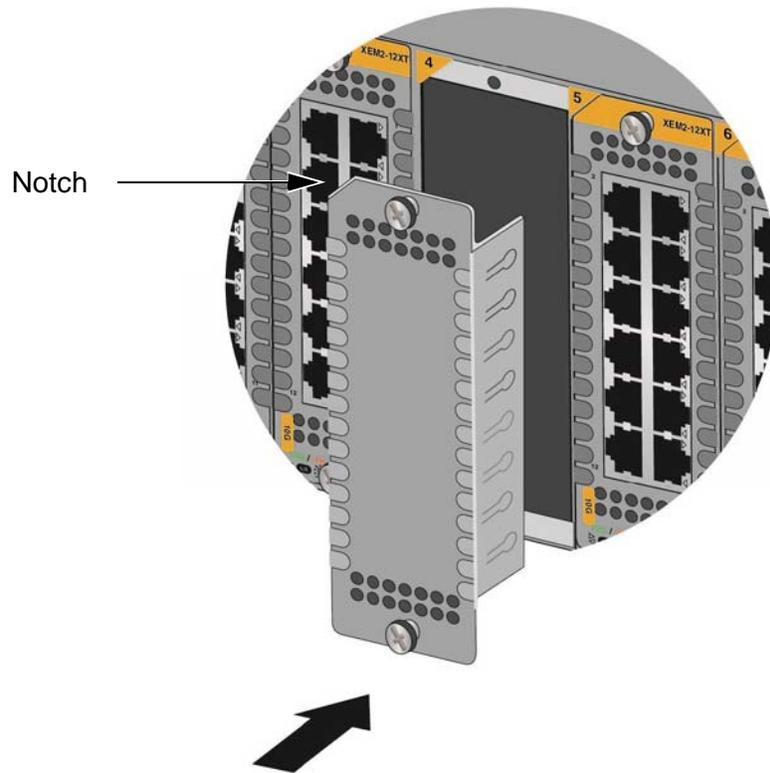

Figure 61. Installing a Blank Slot Cover
1. Position the blank slot cover with the notch in the upper left and slide it into the empty slot. Refer to Figure 61.